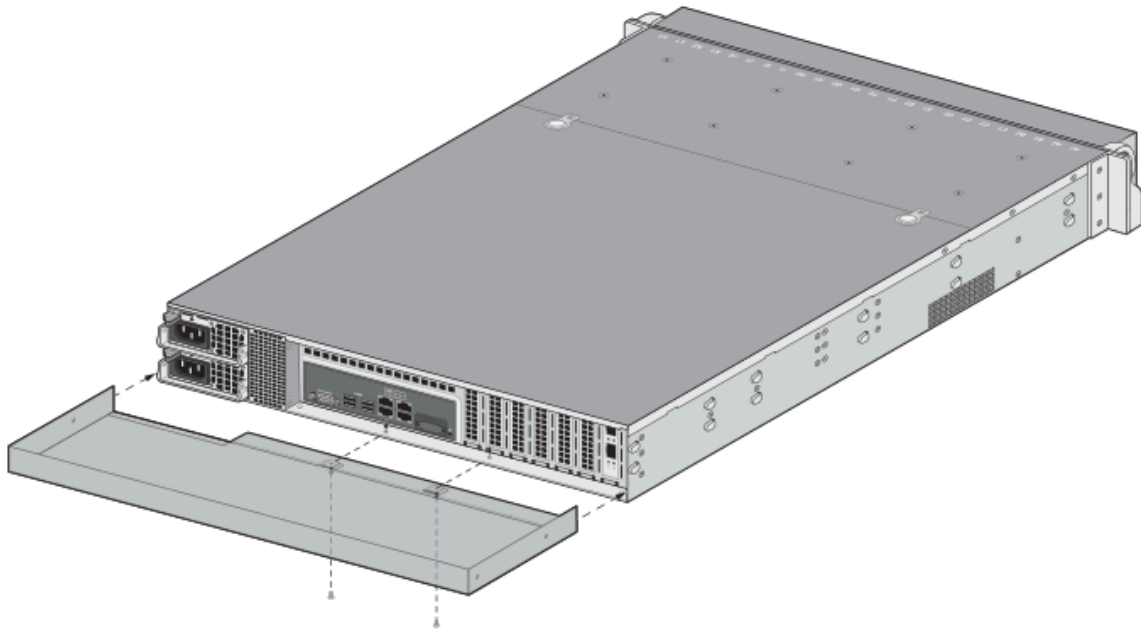

Figure 19 – M-500: Install Rear Opacity Shield Tray
Attach the rear opacity shield tray to the appliance. First, remove the two (2) screws (shown in Figure 19) from the appliance and use these screws to secure the rear opacity shield tray.